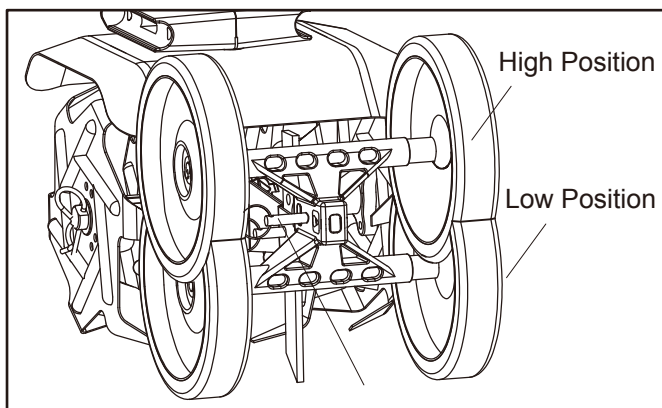

FIGURE 4
4. Remove the Foam Air Filter (See Fig 4 & 5)
The wheels on the mini cultivator can be adjusted into two height positions (See Figure 4)